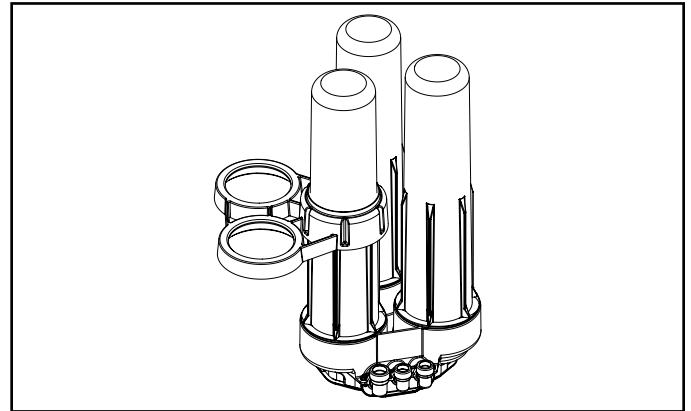

Figure 13
5. Remove the support leg from the three sumps and unscrew the top sump as shown to access the prefilter element. The support leg functions as a wrench to loosen the sump, "Figure 13".
- Securely insert O-ring end of elements into manifold. See "Figure 13".